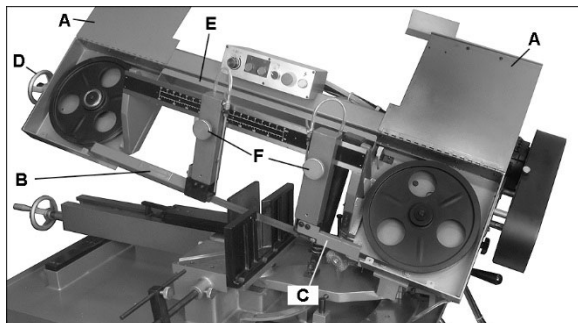
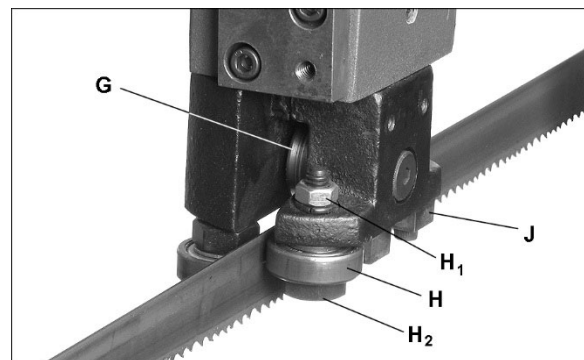

Figure 7-1
Figure 7-2: blade guide bearing adjustment
Refer to Figure 7-1.
3. Open both wheel covers (A, Figure 7-1) and clean out any swarf from wheel areas.
5. Release blade tension by turning blade tension handwheel (D) counter-clockwise.
8. Position new blade around wheels and through upper blade guard (E, Figure 7-1). Slide it into the blade guide bearings with back edge of blade contacting backup bearing. (see Figure 7-2). If guide bearing adjustment is needed, see sect. 7.3
9. Lightly increase tension (D) and position blade so it rests against shoulder of both wheels.
The blade guide brackets (F, Figure 7-1) must be set to just clear the workpiece, but should not interfere with workpiece or other saw components during bow's descent.
The back of blade should ride against back-up support bearing (G, Figure 7-2) which is positioned at an angle to provide greater bearing support, eliminating bearing wear and extending blade life.